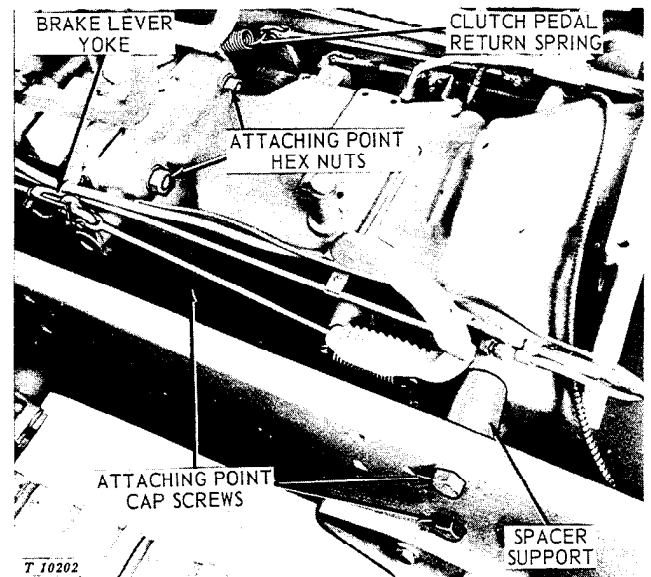

Fig. 20-10-2—Reverser Case or Clutch Housing Attaching Points
8. Disconnect clutch pedal return spring (Fig. 20-10-2).
12. Remove two hex. nuts from clutch housing or reverser case-to-transmission top studs (Fig. 20-10-2).
17. Remove two right side frame cap screws which secure spacer to clutch housing or reverser case (Fig. 20-10-2).